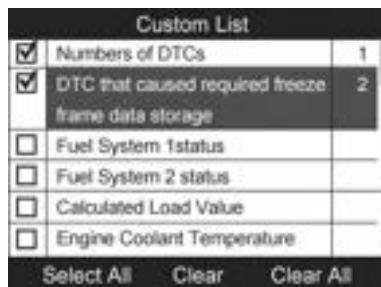

Figure 5.14
- 2) Use the **UP/DOWN** scroll button to move up and down to the desired items and click **Select** button to confirm. The selected parameters are marked with ticks on the left (*Figure 5.14*).